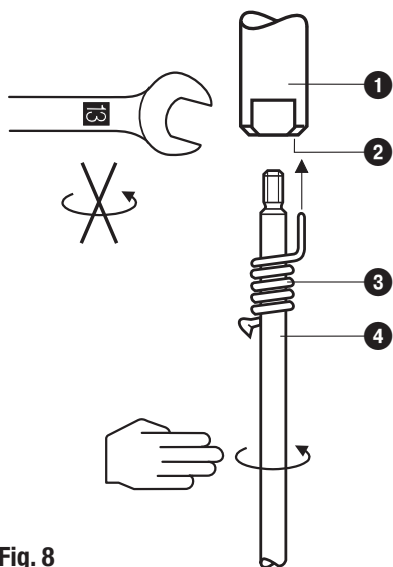

Fig. 8
1. Screw electrode tip ④ into measuring electrode ① , Fig. 4, Fig. 8.